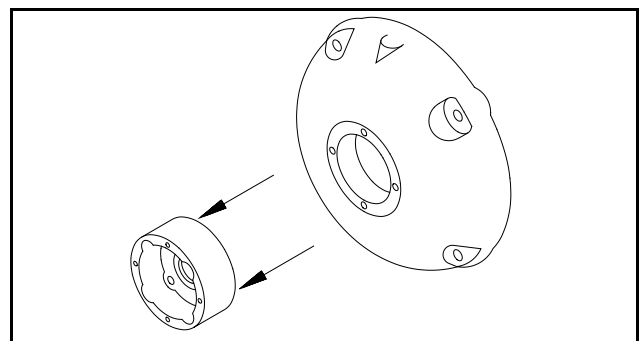

Figure 14. Remove the adapter
- 8.3.1 Remove the four screws that fasten the adapter to the new end plate and remove the adapter. See Figure 14.